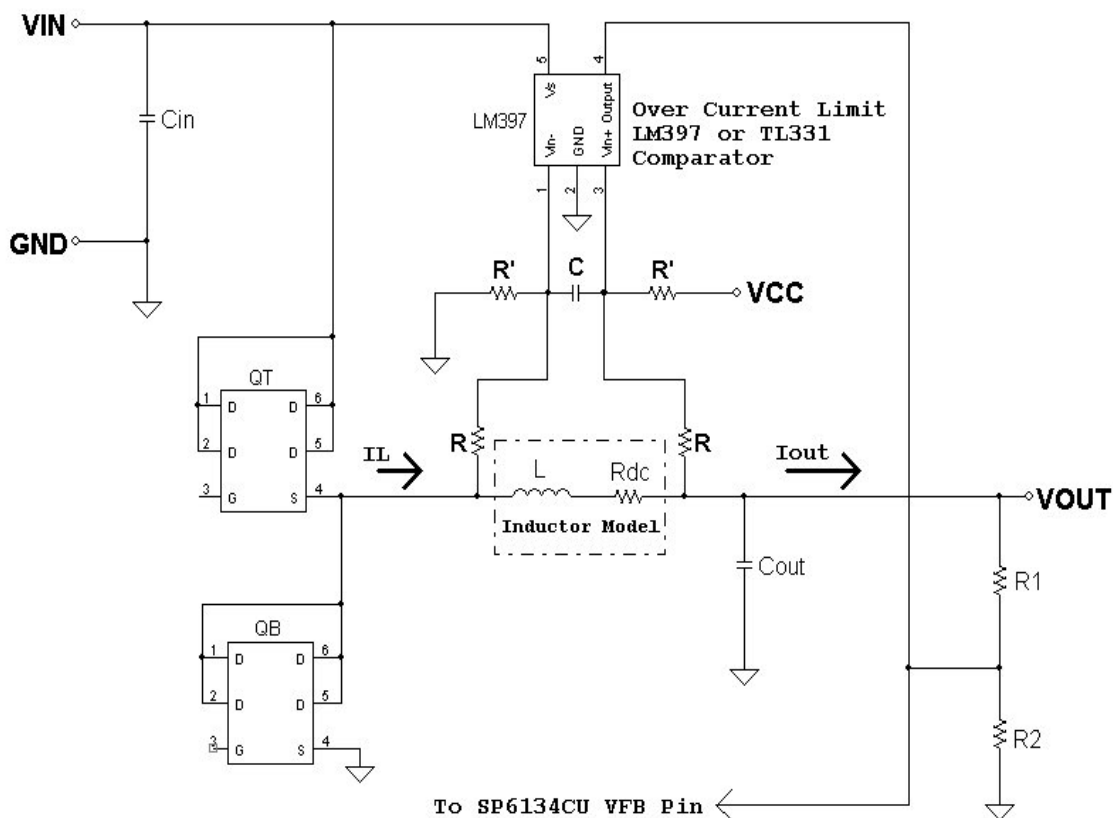

Figure 14. Simple Over Current Clamping Protection Circuit Block Diagram
The SP6134CU provides short circuit protection by sensing the output voltage at ground. However for a better and robust over current clamping protection, a comparator circuit could be used. A simplifies over current clamping circuit block diagram is shown on Figure 14. The output current clamping threshold and RC filter time constant resistors and capacitors component selections are approximately by the following equations (1) and (2).